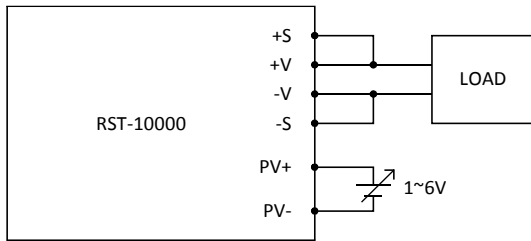

Fig 3.1
- (c)+S and +V, as well as -S and -V, need to be connected as shown in Fig 3.1.